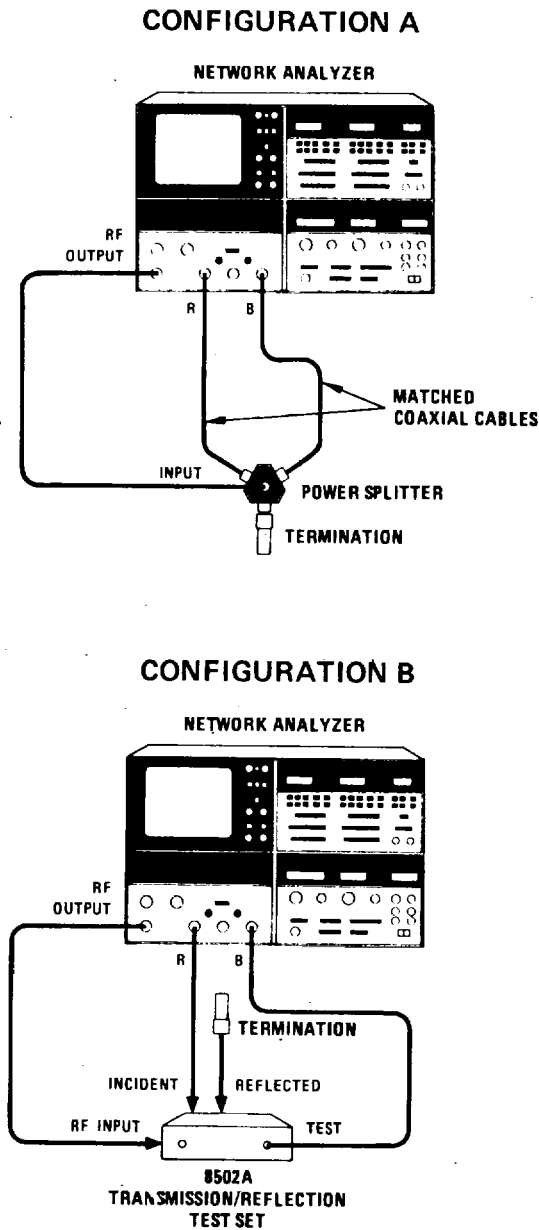

Figure 6. Transmission Frequency Response Test Setup
b. Connect equipment as shown in Figure 6, Configuration A.
- (1) On the 8505A Signal Processor Channel 1 press DISPLAY MKR and ZRO pushbuttons to place marker on reference line and to zero digital readout.
- (2) Grease pencil the trace on the CRT.
- f. To measure the transmission magnitude frequency response of the 8502A connect equipment as shown in Figure 6, Configuration B.
- (1) Set 8502A RF INPUT ATTENUATION control to zero dB.
- (2) On 8505A Signal Processor Channel 1 press REF OFFSET pushbuttons to center the display around the grease pencil magnitude trace.
- g. To determine the phase frequency response of the Network Analyzer connect equipment as shown in Figure 6, Configuration A:
- (1) Remove CRT grease pencil traces from previous test.
- (2) Turn 8505A Signal Processor Channel I MODE switch to OFF and Channel 2 MODE switch to PHASE.
- (3) On the 8505A Signal Processor Electrical Length, press the LENGTH pushbuttons and adjust VERNIER B control to display a horizontal trace on the CRT.
- (4) Set 8505A Signal Processor Channel 2 SCALE/DIV switch to 2 DEG.
- (5) On the 8505A Signal Processor Channel 2 press DISPLAY MKR and ZRO pushbuttons to place marker on reference line and to zero digital readout.
- (6) Grease pencil the trace on the CRT.
- h. To measure the transmission phase frequency response of the 8502A connect equipment as shown in Figure 6, Configuration B.
- (1) Set 8505A Signal Processor Channel 2 SCALE/DIV switch to 90 DEG.
- (2) On 8505A Signal Processor Electrical Length press the LENGTH pushbuttons and adjust VERNIER B control to display a horizontal trace on the CRT.
- (3) Set 8505A Signal Processor Channel 2 SCALE/DIV switch to 2 DEG and repeat step h (2).
- (4) On 8505A Signal Processor Channel 2 press MKR and ZRO pushbuttons.
- (5) On 8505A Signal Processor Channel 2 press the REF OFFSET pushbuttons to center the display around the grease pencil phase trace.